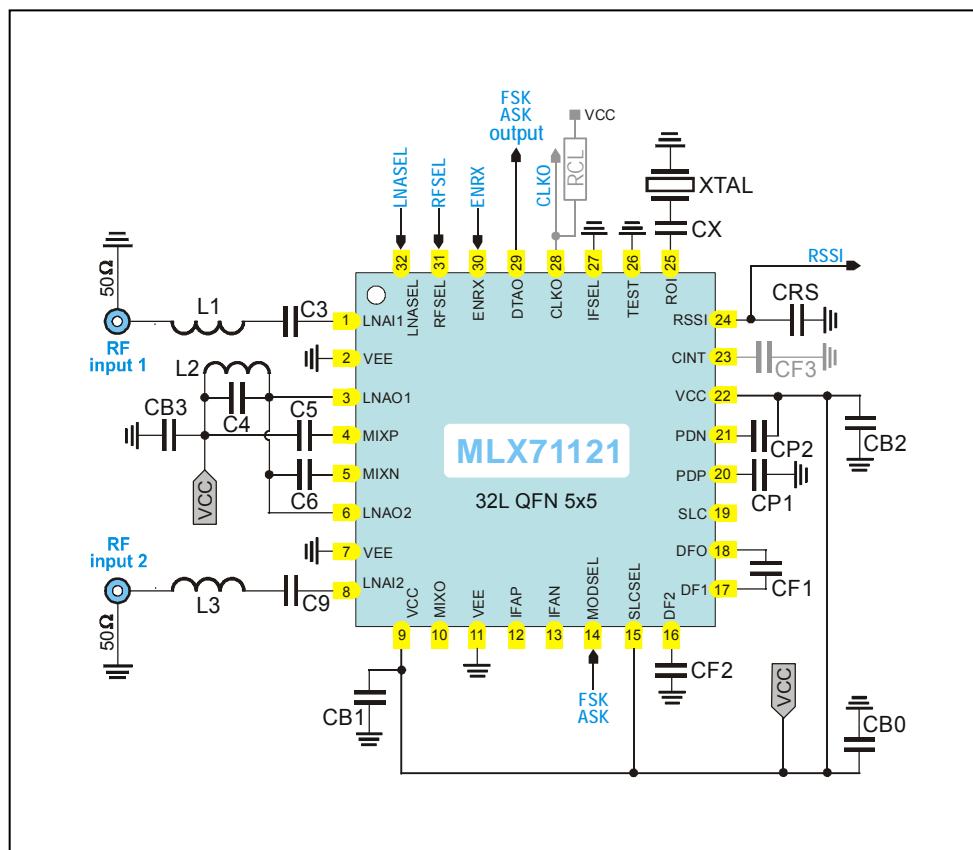

Fig. 11: Antenna diversity circuit schematic, peak detectors activated
typical values at $T_A = 23^\circ\text{C}$ and $V_{CC} = 3\text{V}$, all parameters based on test circuits as shown Fig. 11
typical values at $T_A = 23\text{ }^{\circ}\text{C}$ and $V_{CC} = 3\text{ V}$, all parameters based on test circuits as shown Fig. 11
5.1.1 Test Circuit Component List of Figures 11